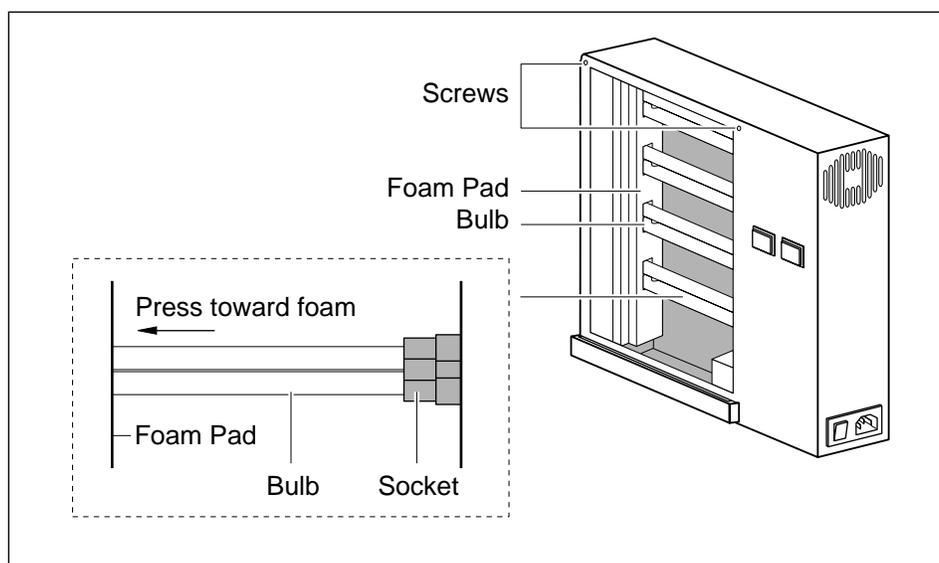

Figure 8-2. Removing a bulb from the Image Eraser SF.
- Grasp the bulb and press it into the foam pad (figure 8-2).